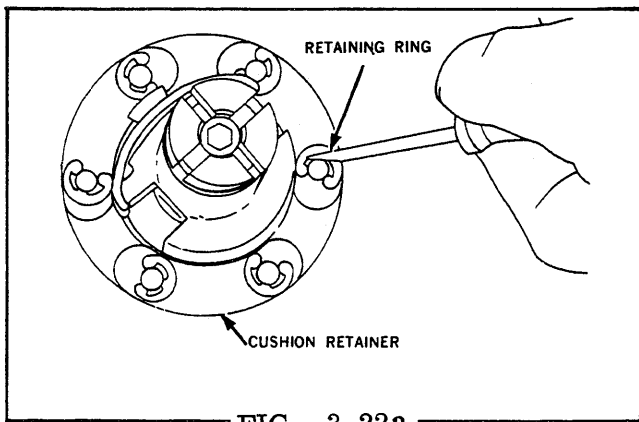

FIG. 3.22a
STEP 22 Remove the retaining rings and cushion retainers from the governor weight retainer assembly (Fig. 3.22a).